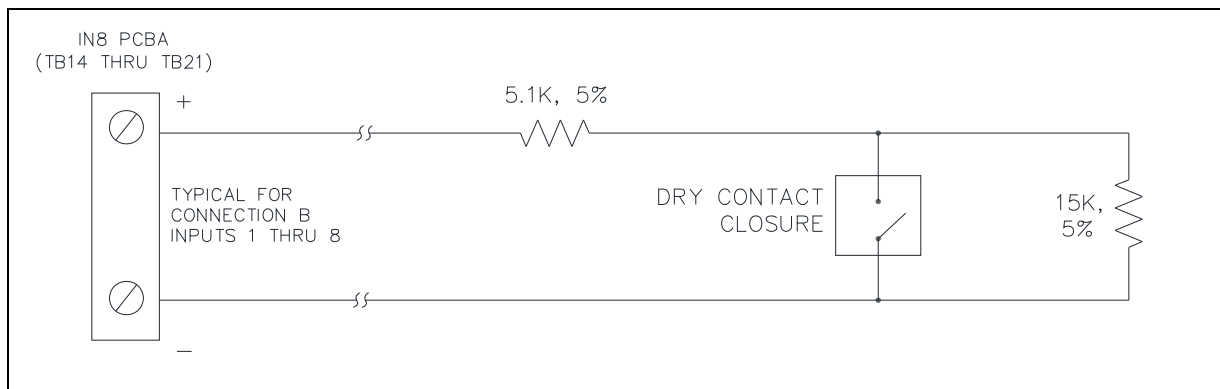

Figure 5. Single Normally Open Switch (with line supervision)
Use this mode for circuits with a single NO dry contact (see Figure 5) to monitor for:
2. Install the terminating resistors in series and parallel with the device terminals (see Figure 5) (*see note below*).